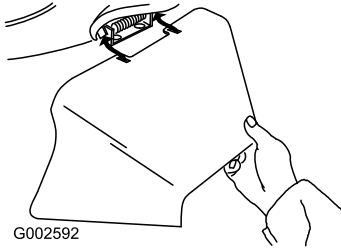

Figure 31
- Install the side-discharge chute and close the door onto the chute (Figure 31).